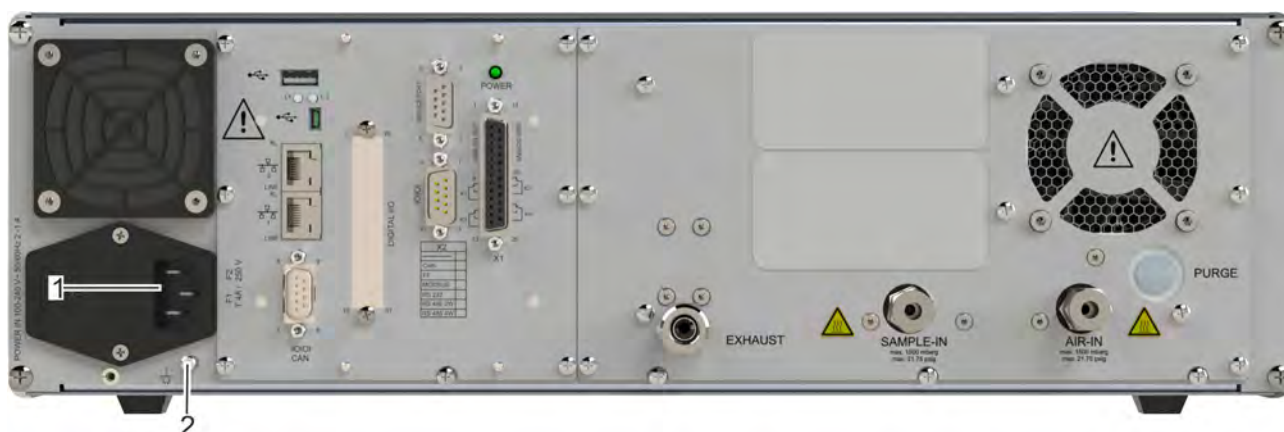

Fig. 69: Power Supply and Equipotential Bonding
1. Connect the on-site potential equalization to the equipotential bonding connector (Fig. 69/2).
3. Plug power cable into power cable connector on the left side of the rear panel (Fig. 69/1).